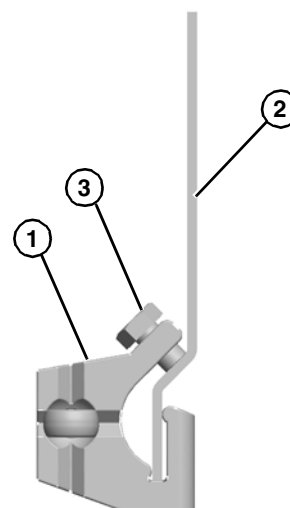

Figure 43
1. Clamp mounting block (Figure 43, item 1) to frame (Figure 43, item 2).
2. Tighten bolt to 20 in-lb (2 Nm) to secure (Figure 43, item 3).